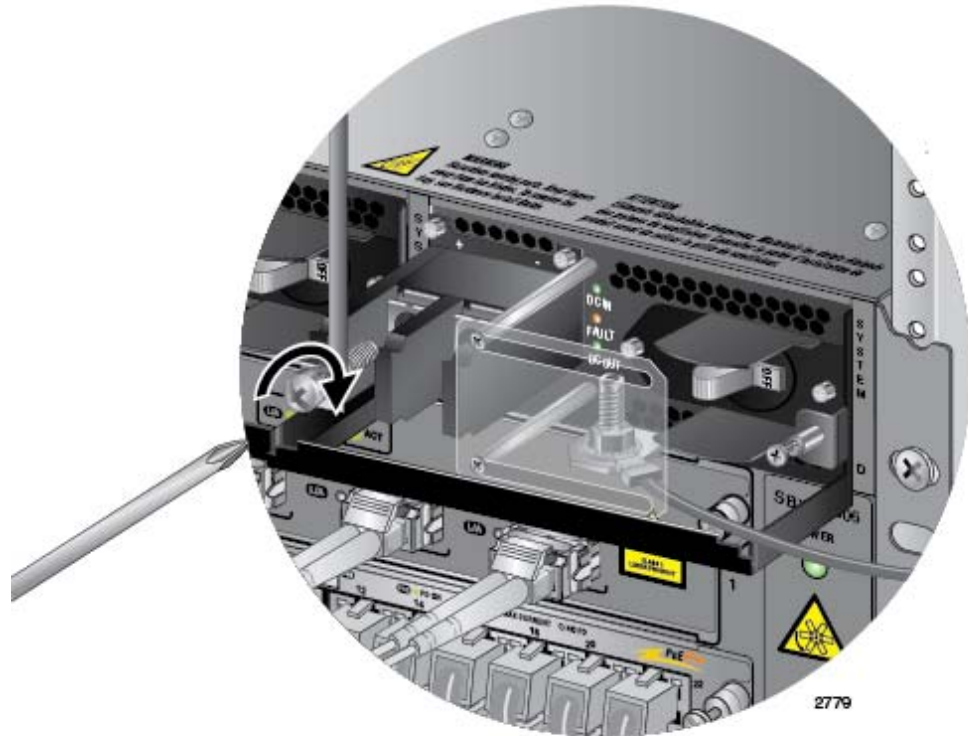

Figure 139. Connecting the Positive Wire
5. Wrap the positive lead wire clockwise around one of the terminal screws and secure the screw and wire to the positive terminal connection on the terminal block with a #3 Phillips-head screwdriver. The positive terminal is on the left. You may attach the wire to the terminal so that it extends either above or below the terminal block. Figure 139 on page 196 shows the wire above the terminal block. Allied Telesis recommends tightening the screw to 30 to 40 inch-lbs.